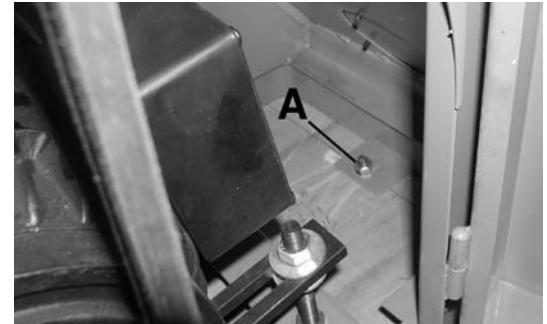

FIGURE 3
It is necessary to unbolt the jointer from the crate before placing it on a solid, level workspace. These bolts can be accessed by opening the rear belt cover/motor cover and the side door (using supplied keys) on the right side of cabinet. See (A) Fig.3 as reference.